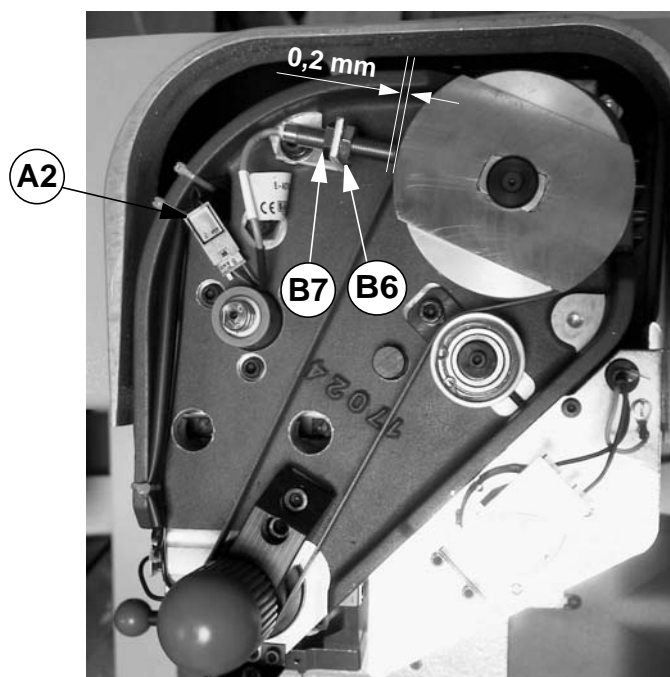

Fig. 56
- 2) disconnect the connector (A2) from the sensor (fig. 56).
- 4) replace the sensor and lock in place with the nuts (B6) and (B7) at approx. 0.2 mm from the pulley (fig. 56).